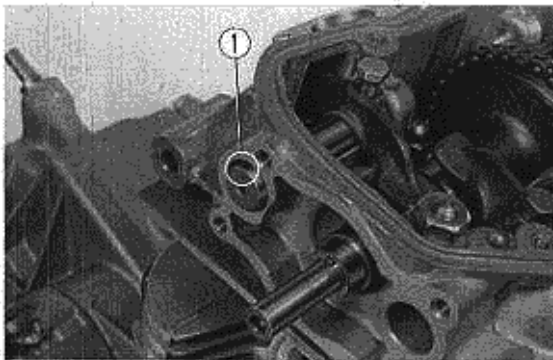

Fig. 4-7 ① Punch Mark
* Install the right side rocker arms and camshaft holder first. Install the rocker arm shafts with the mark up. This will give the largest valve clearance and will facilitate installation of camshaft holder (Fig. 4-7).